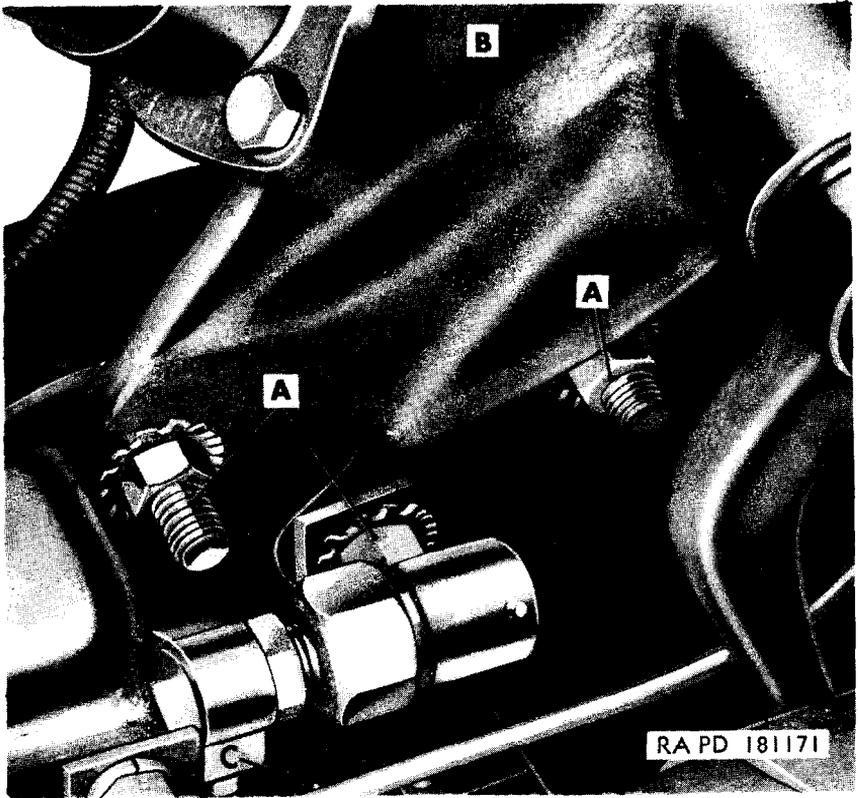

Figure 35. Steering gear disconnect points.
b. *Remove Steering Gear* (fig. 35). Remove 3 bolts, 3 plain nuts, and 6 lockwashers (A) securing steering gear to frame. Remove steering gear (B) from frame.
a. Install Steering Gear (fig. 35). Secure steering gear (B) to frame left side rail with three $\frac{1}{16}$ -20NF x 3 bolts, three $\frac{1}{16}$ -20NF plain nuts, and six $\frac{1}{16}$ -inch lockwashers (A).